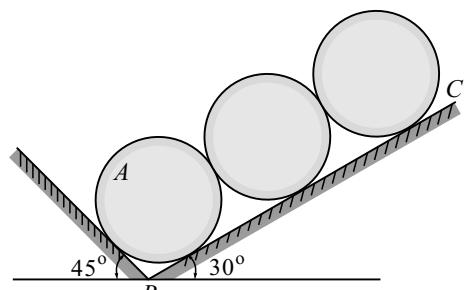

Fig. 3.E30
31. Two prismatic bar AB and CD are welded together in the form of a rigid T and are suspended in a vertical plane as shown in the Fig. 3.E31. Determine the angle θ that the bar will make with the vertical when a load of 100 N is applied at the end D . Two bars are identical and each weighing 50 N.